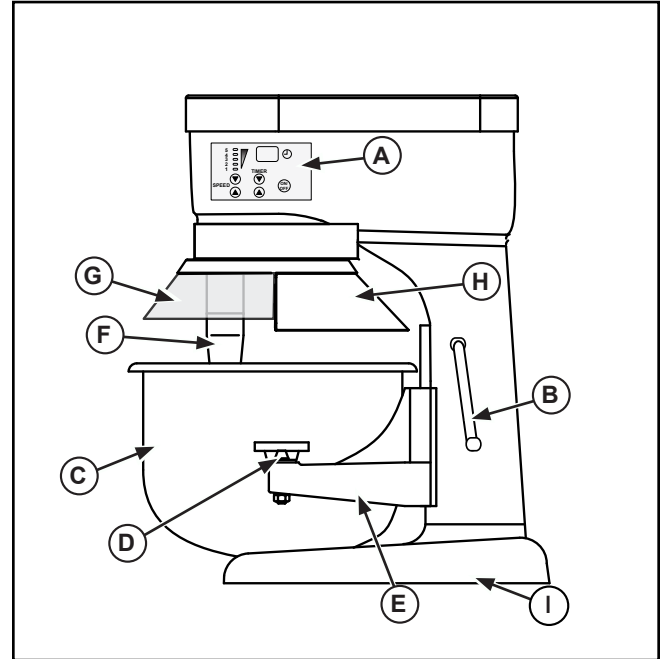

Figure 1. 7 Quart. and 10 Quart. Mixer, Features and Controls.
2. Before attaching the bowl select the mixing attachment you will be using. Place your selected mixing attachment inside the empty bowl (C). Do not attempt to fit the mixing attachment onto the mixing shaft (F) before the bowl is in position. See Figures 1, 2, 3 or 4.
3. Lower the bowl cradle to its lowest position by rotating the bowl lift (B).
4. Rotate the bowl clamp levers (D) to the out or back position.
5. Hold the bowl (C) so that the pin on the bowl is facing in towards the mixer. Position the bowl so that the pin is lined up with the pin slot on the bowl cradle (E). Slide the pin into the slot.
6. Align the holes on the bowl tabs with the pins on the bowl cradle (E). Set the bowl (C) on the bowl cradle (E).
7. Rotate the bowl clamp levers (D) to the front over the bowl tabs to secure the bowl (C) onto the bowl cradle (E).
8. Install the attachment to the mixing shaft (F). Ailing the groove on the attachment with the pin on the mixing shaft. Push the attachment up and rotate to lock onto the pin.
9. Raise the bowl (C) to its maximum height using the bowl lift (B) by rotating in a counter clockwise direction until it snaps into place.
1. Close the bowl guard (G). See Figure 1. The safety guard must be closed for the mixer to operate. If the safety guard is open or not closed properly then the mixer will not operate.